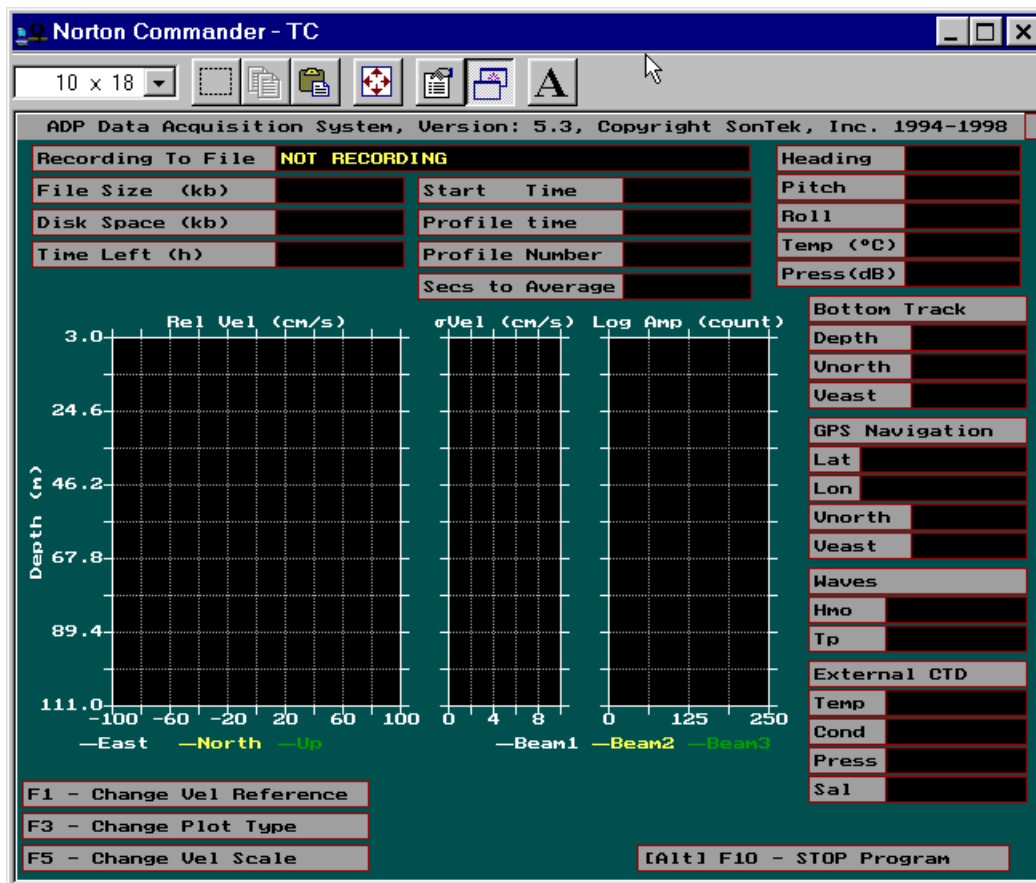

Figure 2 – ADPSA Real-Time Data Acquisition Display
After selecting "Start Data Acquisition" in the setup screen, the program displays the command sequence for initializing the ADP, and then switches to the real-time display and the ADP begins collecting data. Figure 2 shows an example of the data acquisition screen. The top of the screen displays information on the status of data acquisition. The main portion of the screen provides a graphical data display of ADP data. The bottom of the screen shows which keys are active during data acquisition and the function of each.
*Velocity component plots:* (shown in Figure 2)